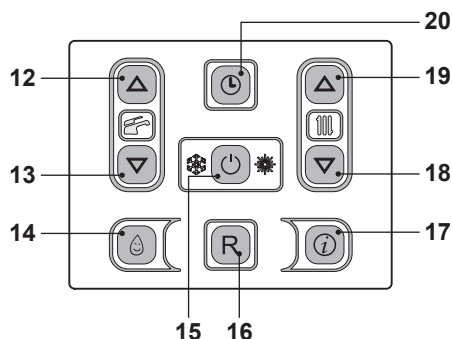
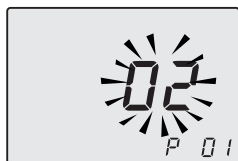

Fig. 9.3
Fig. 9.4
- Enter in "programming mode" by sequentially pressing keys 15 - 18 - 19 (Fig. 9.3) for 10 seconds until the letters **P01** are displayed on the LCD display, indicating that "parameter 01" (Fig. 9.4) has been activated.
- By pressing key 15 (Fig. 9.4) confirmation of the inserted value is obtained.
- Press keys 18 or 19 (Fig. 9.4) to exit without changing the value.